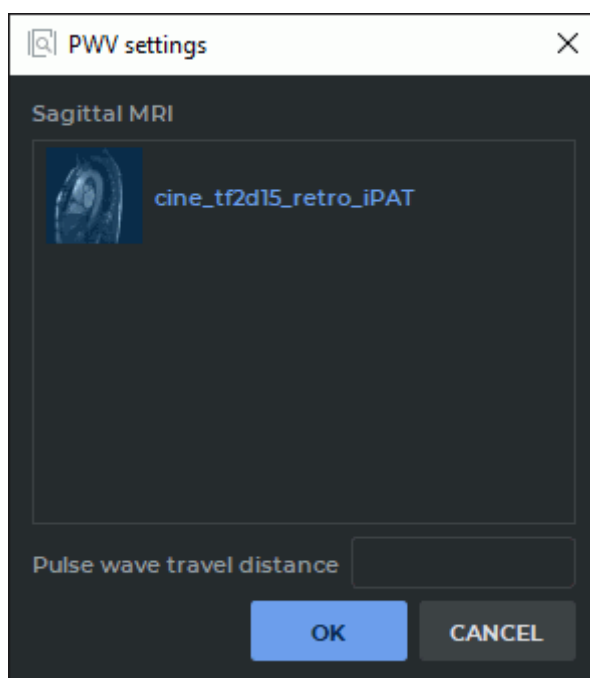

Figure 2.50: The **PWV settings** dialog box
If there is no sagittal plane series in the study, but the pulse wave travel distance is known, it can be entered manually by the user in the **PWV settings** dialog box (Fig. 2.50). For details see Section 2.19.7.
3. Go to the **PWV** tab. When you first click on the **PWV** tab the **PWV settings** dialog box is displayed (Fig. 2.50).
4. In the **PWV settings** dialog box (Fig. 2.50), you will see the list of the series opened in the current study window, except for those that have been selected as the PC MRI and MAG MRI. Select a sagittal plane study series.